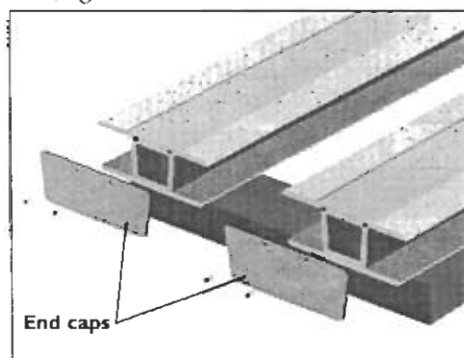

Figure 8
1. Remove the end caps from the side rails using a Phillips screwdriver (Figure 8).